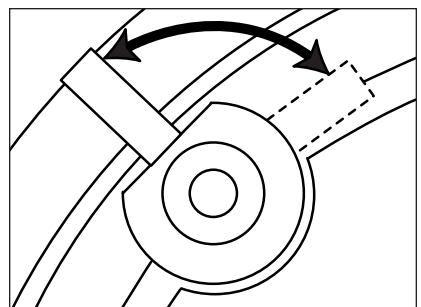

Figure 17 Tightening the mounting “dogs”
6. The DS6300AT and DS6500AT feature a separate frame assembly which installs with four clamps or mounting “dogs” which hold the frame in place. The dogs are tightened via four front-baffle screws. Tighten the dogs by turning the screws clockwise. **DO NOT OVERTIGHTEN THESE SCREWS.** Over-tightening the clamps may make the grille difficult to install. (**See Figure 17**).